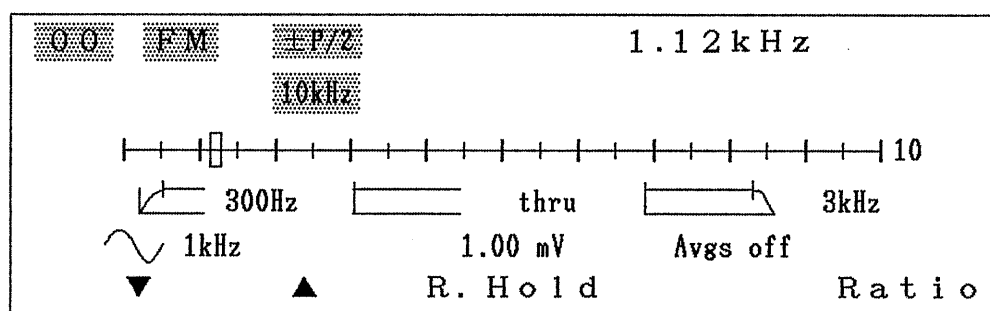

Fig. 4-6
2. The measurement items are set to the FM mode in viewing area 2 as shown in Fig. 4-6.